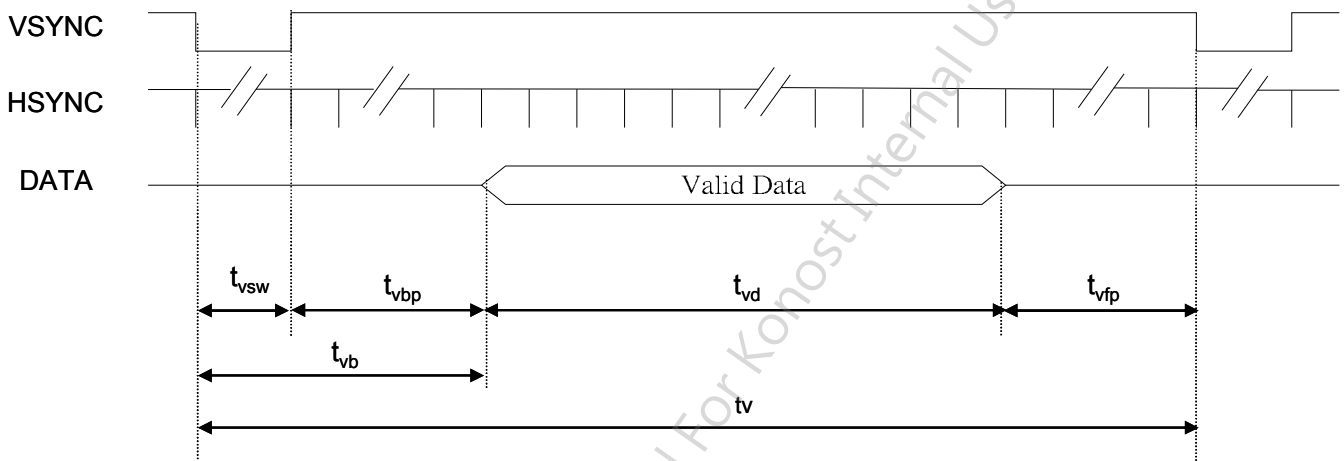

Fig.3 YUV Input Vertical Timing Chart
5.2 YUV 16-bit timing (Refer to Fig.3 and Fig.4)